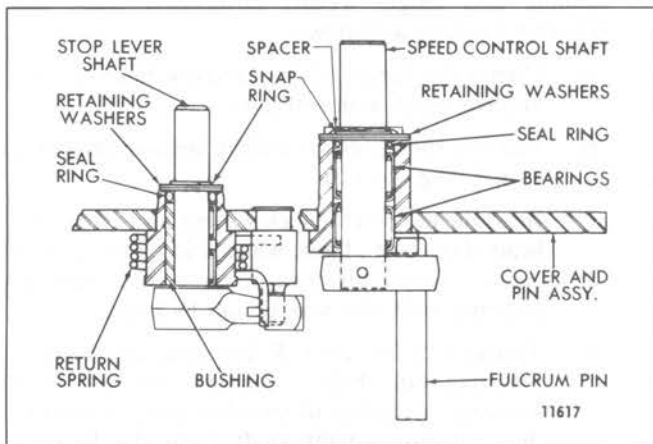

Fig. 7 - Cross Section of Former Governor Cover
1. Disassemble the governor cover (Fig. 7 or 8) as follows: